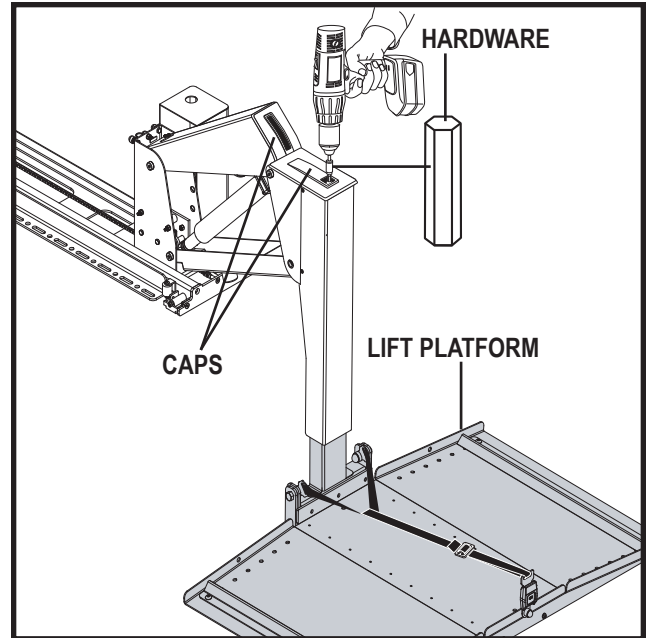

Figure 11. Raise or Lower the Platform. DO NOT use the Flex-Shaft for this Operation
The Backpacker lift platform can be raised/lowered from the adjustment point located at the top of the lift (see figure 11).
PROHIBITED! DO NOT use the flex-shaft when manually raising or lowering the lift platform while using the method illustrated in figure 11. Attach the needed hardware directly to the drill or the manual adjustment wrench (see figure 15).
1. Secure the appropriate end of the flex-shaft to a drill, and depending on which part of the lift you want to move, attach the appropriate hardware to the other end of the flex-shaft. **See figures 11, 12 13, and 14.**